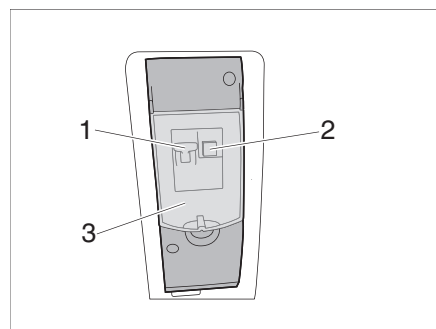

Fig. 80 230 V automatic circuit breaker
■ Open the cover flap (Fig. 80,3).
The 230 V connection is protected by a two-pole automatic circuit breaker (Fig. 80,1).
▷ The residual current circuit breaker (Fig. 80,2) for 230 volts should be tripped once annually so that the mechanism does not "stick" and the tripping time is not extended.